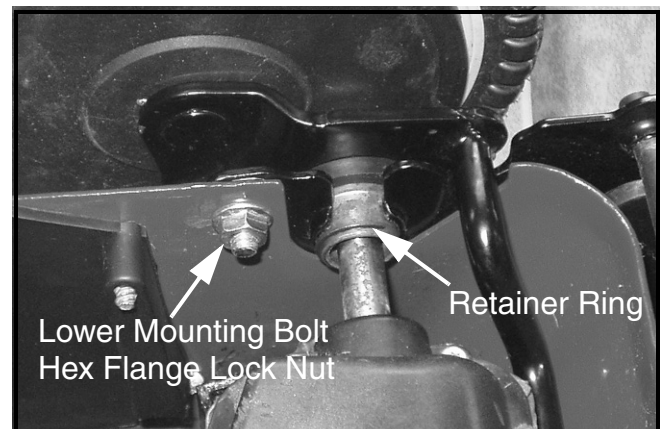

FIGURE 2
handle bracket. Using a flat blade screw drive, carefully pry the retaining ring out of the groove of the support bearing. See Figure 2.
8. Using a 1/2" box/open end wrench, remove and discard the hex flange lock nut from the handle bracket's lower mounting bolt. See Figure 2.